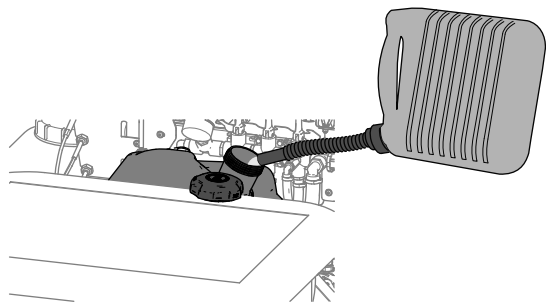

Figure 15
3. Clean around the fuel-tank cap and remove it (Figure 15).
4. Fill the tank with fuel (Figure 15) to the bottom of the filler neck. **Do not fill into the filler neck of the tank.**